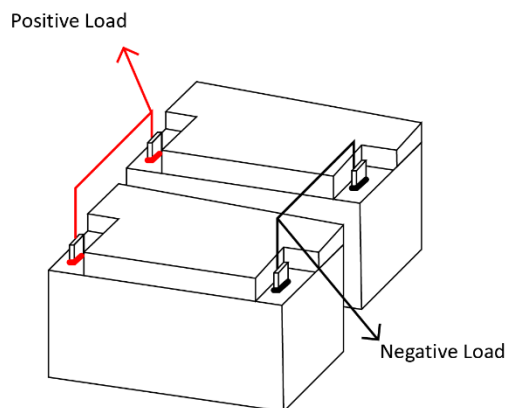
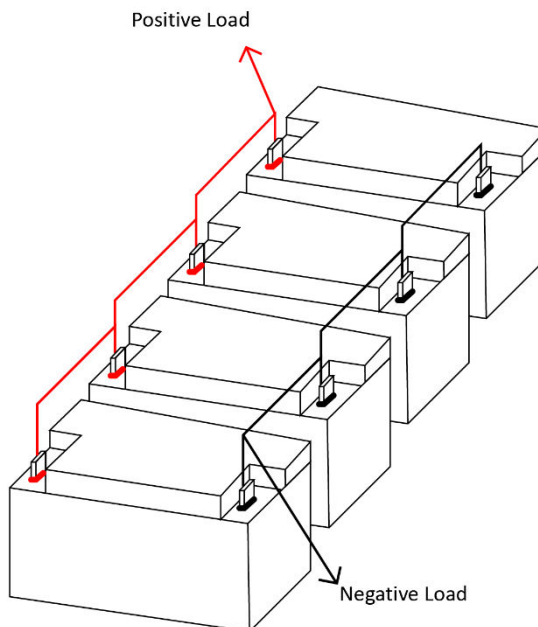

Figure 3.1: Two 1275 Batteries connected in Parallel to create a 12V 150Ah Battery Bank
Figure 3.2: Four 1275 Batteries connected in Parallel to create a 12 V 300Ah Battery Bank
7. Repeat steps 3-6 for additional batteries in the system. An example of a finished connection can be found below in Fig. 3.1 and Fig. 3.2.